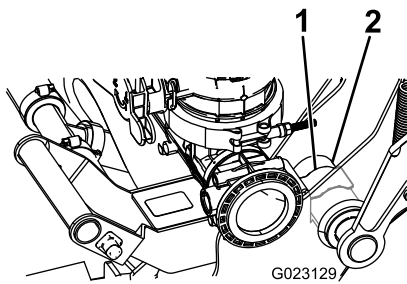

Figure 23
- D. Push until the spring clip snaps over the pivot tube as shown in Figure 23.